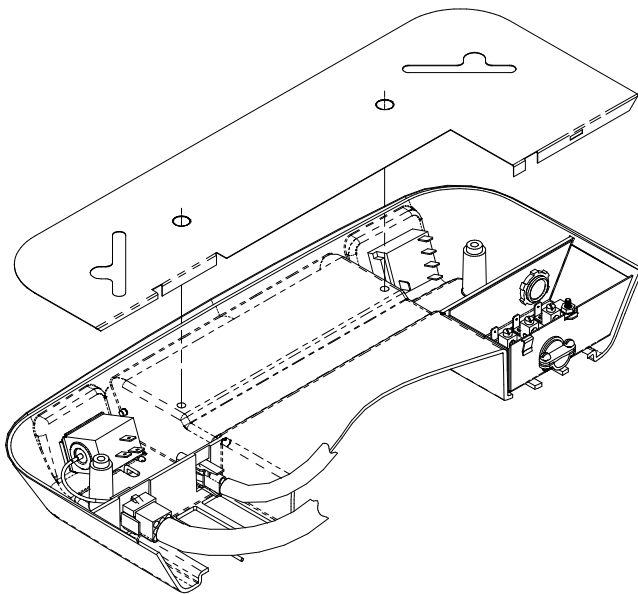

FIGURE 2
3. Plug the roof top unit electrical conduit into the 9 position receptacle located in the thermostat side of the ceiling assembly (See Figure 2).